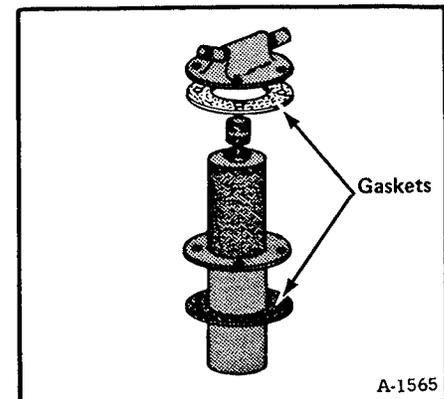

Fig. 1-49 100 Mesh Filter Assembly
- (5) Install two new gaskets (Fig. 1-49). Clean all surfaces and install the mesh.
- (6) Check hose condition and replace if necessary.
- (7) Tighten the fastening bolts to 20 ft.-lbs. (27,12 Nm) torque.